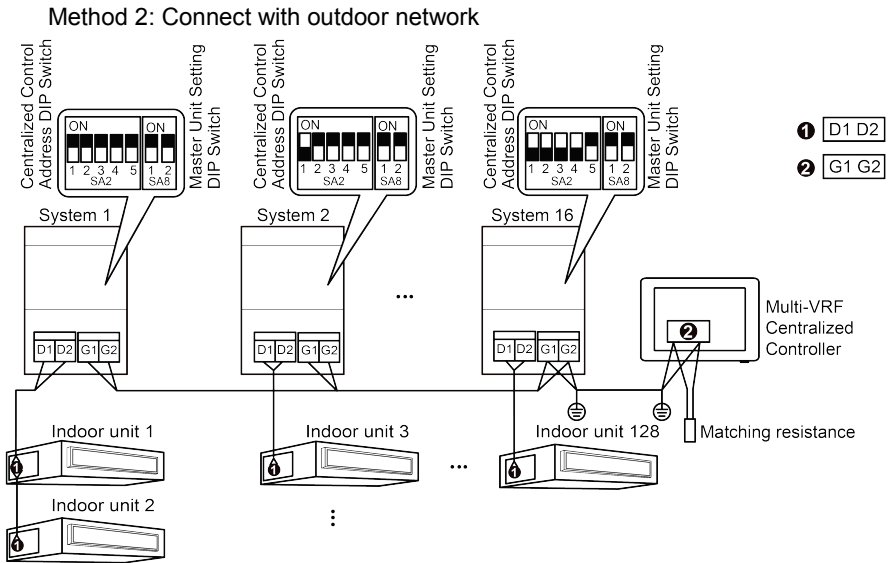

Fig.3.5 Centralized Controller Connected with Outdoor Network
- (3) If the centralized controller is to be connected with the network of outdoor units, connect according to fig.3.5. The centralized controller can only be connected with the terminal system of the outdoor network, and connect the shielded layer of twisted pair line to . A matching resistance needs to be added with the communication cords at the G1 and G2 ports.
- (4) The centralized control address DIP switch (SA2_Addr-CC) indicates the centralized control address required when different refrigerating systems are controlled in a centralized manner. The default factory setting is "00000".